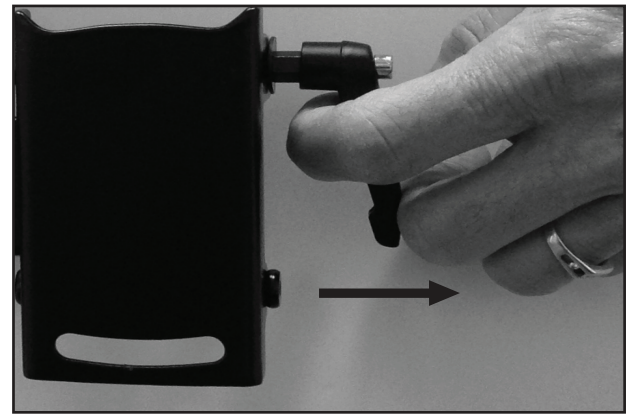
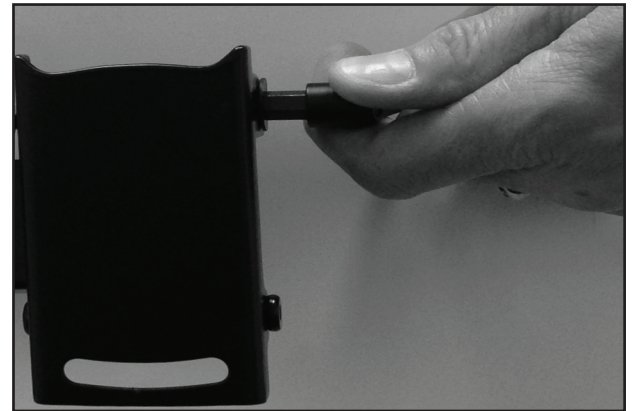

Fig. 5b
Fig. 5c
2. This handle is a tension lever. To loosen the tilt adjustment, turn the handle counterclockwise until the handle hits the TV Plate (2) and can turn no more. Then pull the handle away from the mount arm to release the spring as shown in Fig. 5b, and while holding the handle away from the mount arm, turn the handle clockwise (Fig. 5c) and release the handle to engage the spring. Now you can turn the handle further counterclockwise to loosen the tilt adjustment more.